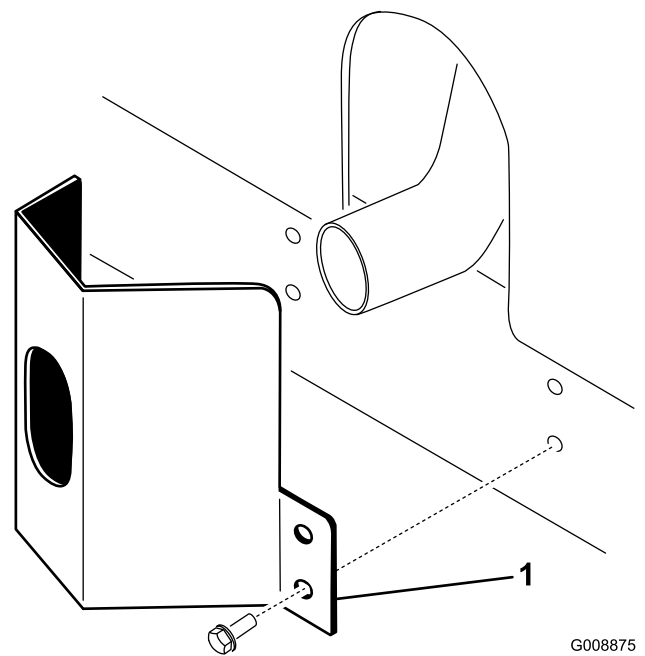

Figure 10
2. Secure the exhaust guard to the frame with 4 self-tapping screws (Figure 10).
1. Position the exhaust guard around the muffler while aligning the mounting holes with the holes in the frame (Figure 10).